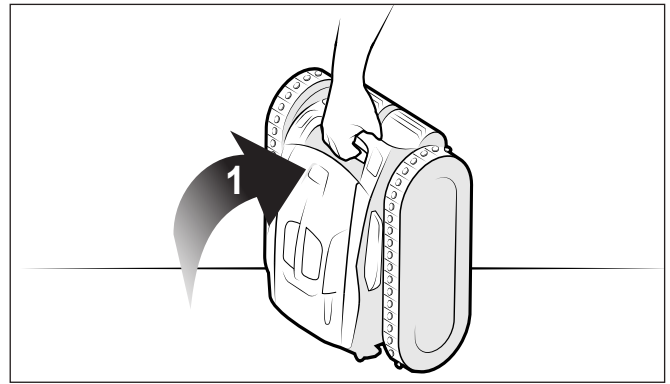

Figure 20. Cleaner in Upright Position
- Lift the cleaner to a vertical position so that the handle is up (Figure 20).